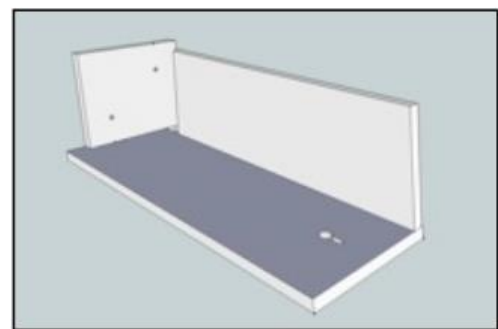

Figure 4: Slide the Base Panel into the rebate in the Fixed Side Panel, flush with the Rear Panel.
- Push the BA up to the RP, approximately parallel to the bottom edge (Fig. 4).